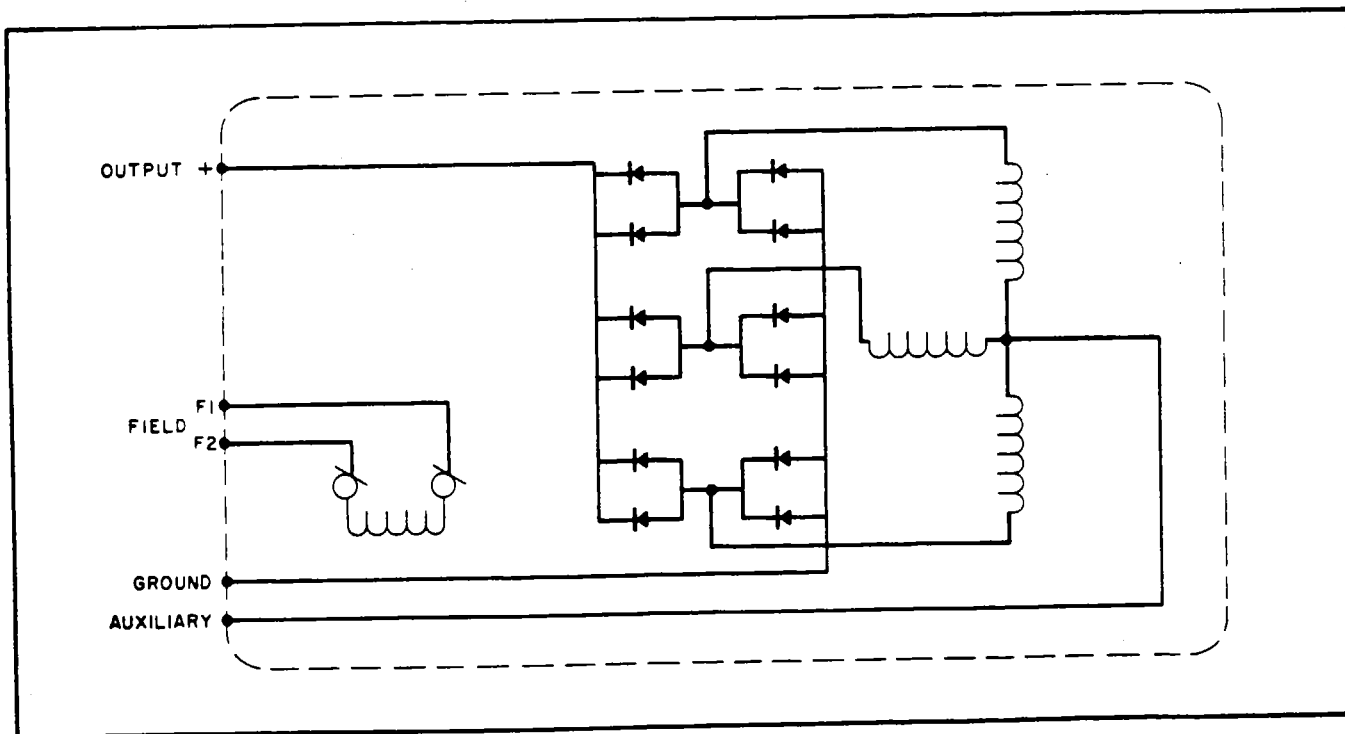

Figure 11-4. Internal Wiring of Alternator
b. The rectifier and heat sink assemblies used in these alternators are different in construction from those used in any other alternator used on Piper aircraft. Each heat sink has six (6) rectifiers of one polarity attached to it. Each stator lead connects to four rectifiers (two positive and two negative). This can best be illustrated with an internal wiring diagram. (See Figure 11-4.) Each rectifier is rated at 150 P.I.V. (Peak Inverse Volts) minimum for transient voltage protection. All soldered connections are made with high temperature solder. The stator and rectifier leads are anchored to the heat sink with epoxy cement to provide vibration protection. Because of this construction, special service procedures must be followed. Refer to Paragraph 11-13b, Inspection and Testing of Components.